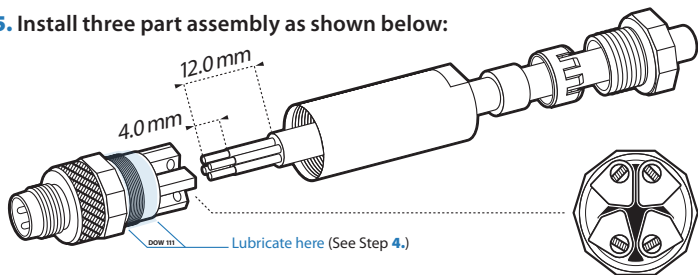

Figure 1 - Exploded View
- c. Install 3 piece sealing system (see Figure 1) onto the cable assembly. Take care to place parts in proper order and orientation.
4. Lubricate o-ring and thread system (See Figure 1) with Dow 111 or equivalent in location near terminal block as required to prevent water intrusion when connector shell is installed. Thread shell in place until tight.